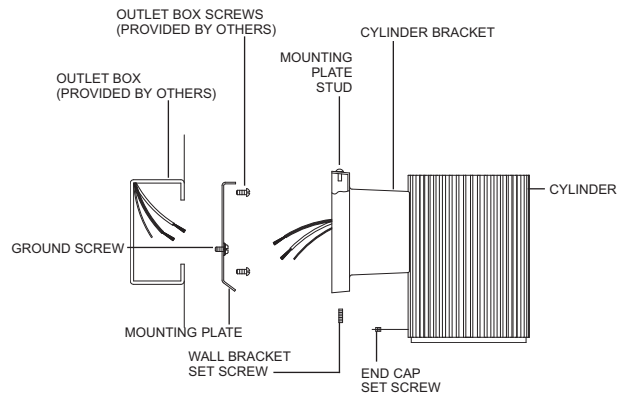

FIG. 1
1. Detach mounting plate from cylinder bracket by loosening set screw (Fig.1).
2. Secure mounting plate to outlet box with screws from outlet box (Fig.1).
3. Hang fixture on mounting plate by the mounting plate stud (Fig.1).
4. Make electrical connections. Splice black supply lead to black fixture lead and white supply lead to white fixture lead. Secure fixture ground wire and supply ground wire to ground screw (Fig. 1).
5. Secure the fixture in place by tightening the wall bracket set screw (Fig. 1). Allen key is provided, loosen the end cap set screw.